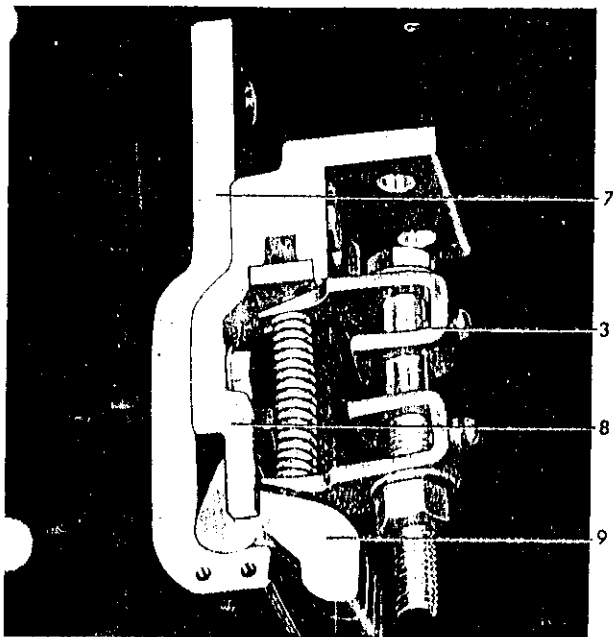

Figure 24C (8034469)
4. Place washer (not shown) on guide on top of spring, place top of guide into hole in spring retainer (4) and the round end of spring guide in cut-out in primary finger (Figure 24C).